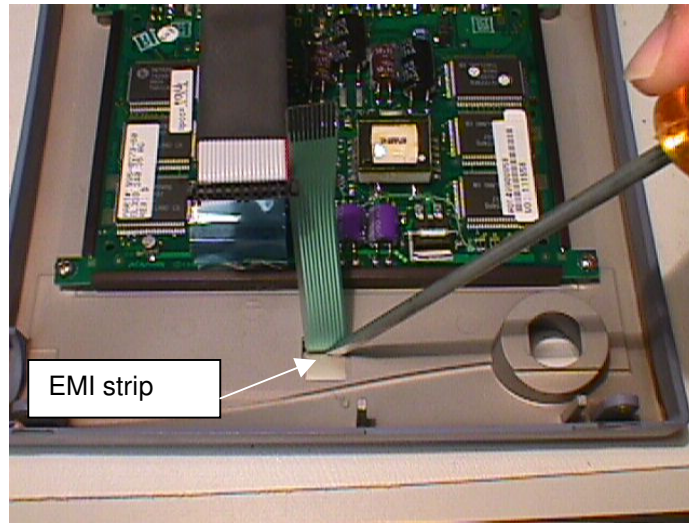

Figure 7-5 The Cable Access Port
1. With bezel assembly dismounted from case (see Section 7.2.1), remove EMI strip. (See Figure 7-5).
2. Insert flat blade screwdriver through the cable access port to push switch set panel away from bezel. (See Figure 7-5).